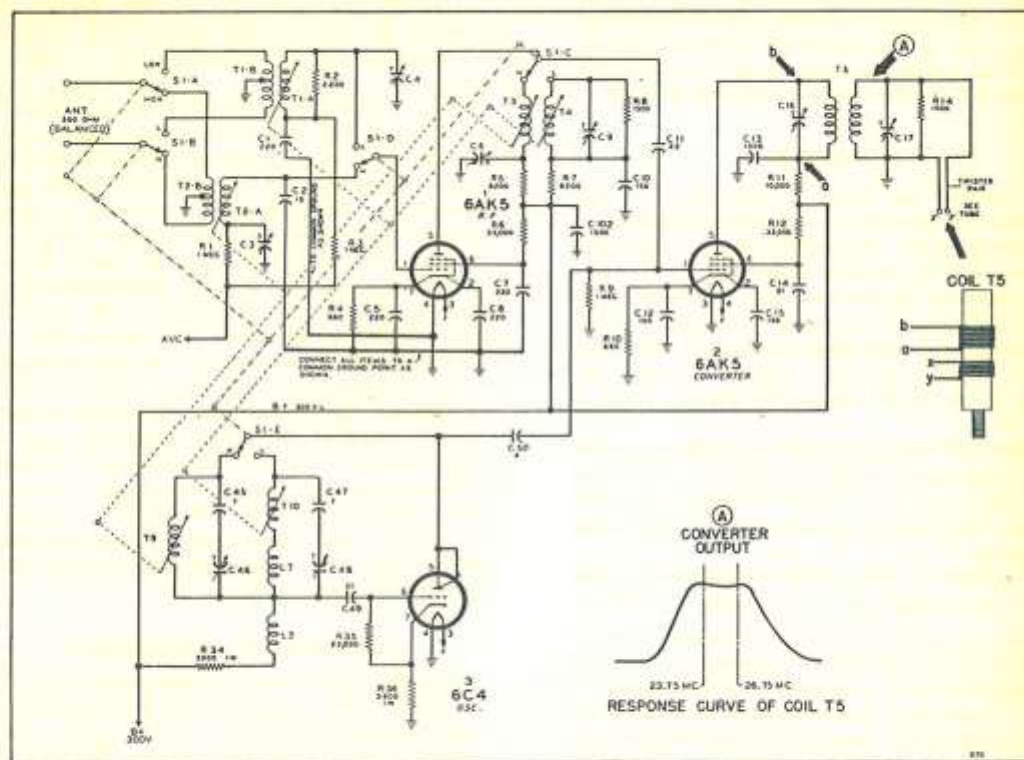

Figure 7. Tuner Section
The r-f amplifier (see figure 7) makes use of a type 6AK5 tube (1) employing higher-than-normal bias in order to reduce input loading on the high-band coils. However, resistor R2 is used to damp low-band coil T1-A.
The converter (see figure 7) makes use of a type 6AK5 tube (2) biased by both cathode bias (R10 and C12) and the oscillator voltage appearing on the grid causing rectification and charging the grid resistor-and-capacitor combination of R9 and C50.
The oscillator (see figure 7) makes use of a type 6C4 tube (3) connected as a modified Colpitts using the cathode-to-grid and cathode-to-plate inter-electrode capacities to maintain oscillation.